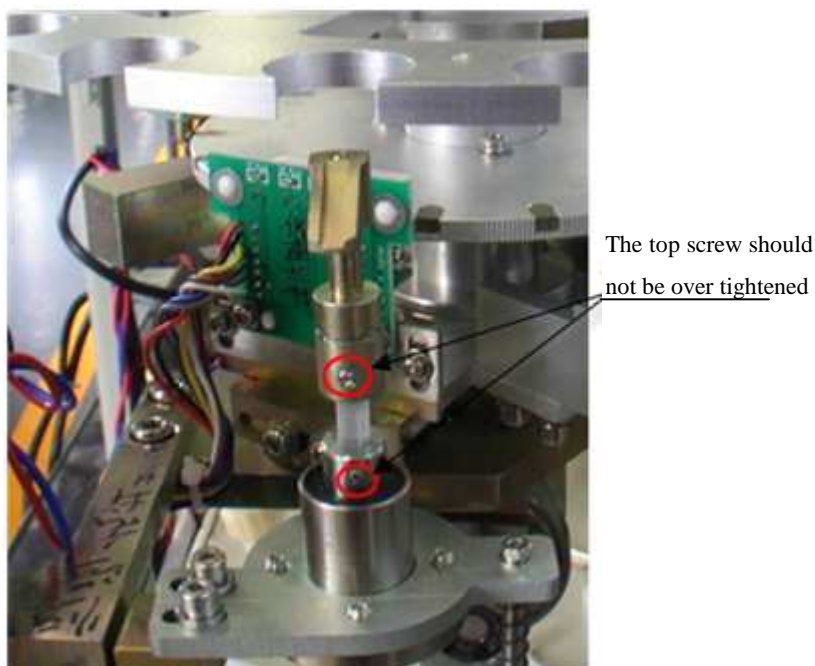

Fig.3-7
- 3) The installation of the sample discarding bar is similar with that of the manipulator. Shown as Fig.3-7.